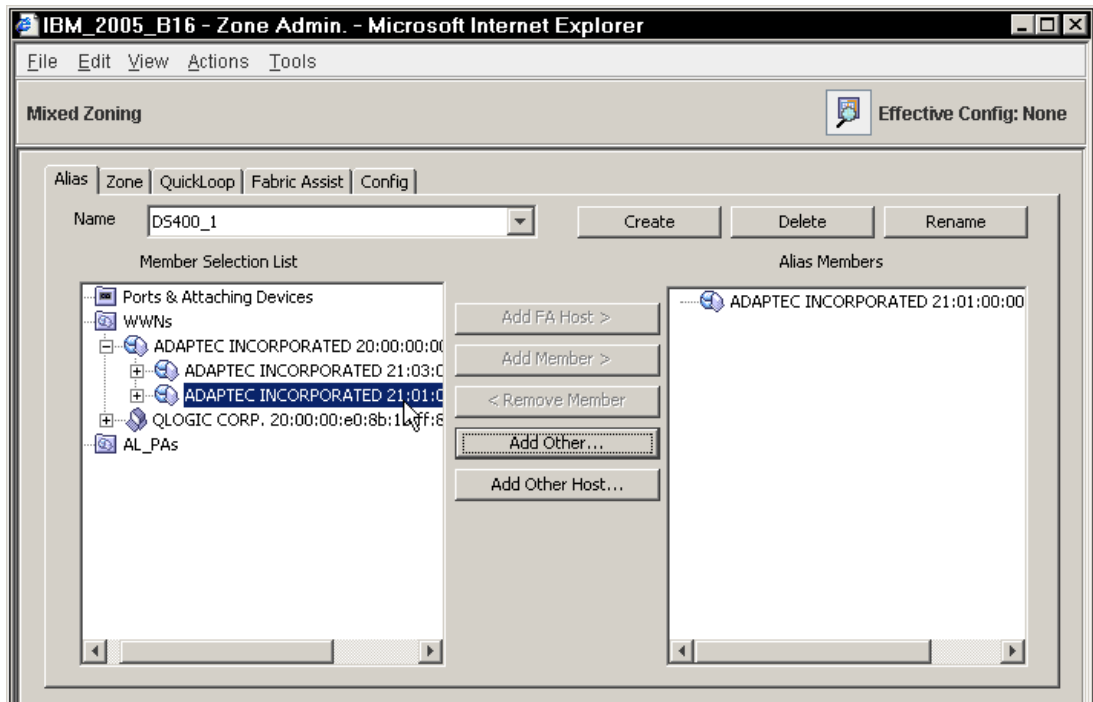

Figure 18 WWN Selection Dialog for aliases
4. Navigate through the Member Selection List to WWN → ADAPTEC INCORPORATED, if you are using a DS400; otherwise, it is something other than QLogic. See Figure 18.